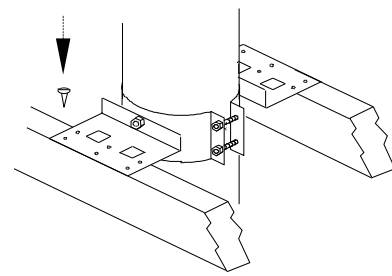

Figure 13A
- Step 1.** Install the insulated offset elbow on the vertical chimney length. Turn it in the required direction and fasten it to the chimney with the (4)-1/2" metal screws provided.
- Step 3.** Use another elbow to turn the chimney vertically. Again secure the elbow to the chimney length using the (4)-1/2" metal screws.
- Step 4.** Install the remaining chimney as described in the instructions for the roof support (*figure 13A, page 8*).
- Step 2.** Slip the support down over the stainless steel chimney until its brackets rest on the roof or floor. Tighten the collar around the chimney, then secure it by screwing the four 1/2" metal screws (supplied) through the holes located on each side of the collar bolts and into the chimney (figure 13a).
- Step 3.** Center the chimney and nail or screw the support to the roof or floor using (8) - 2-1/2" nails or (8) N°8 - 1-1/4" wood screws. (figure 13a).
- Step 5.** Install the roof radiation shields in the roof joists. These shields consist of four metal plates. Nail one plate to each side of the joist using (2) 2-1/2" nails.